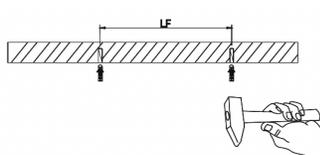

Fig. 1
1. Drill holes and insert the anchor sleeves (Fig. 1).